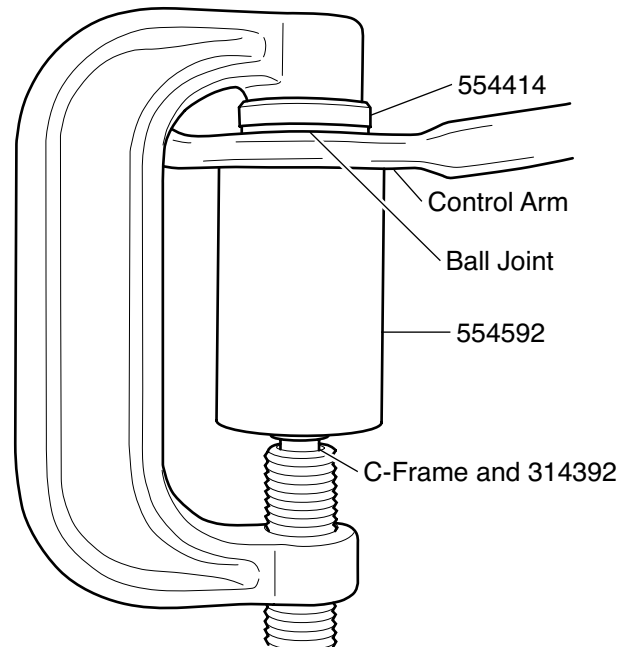

Figure 2. Ball Joint Installation
3. Position 554414 on the ball joint as shown in Figure 2.